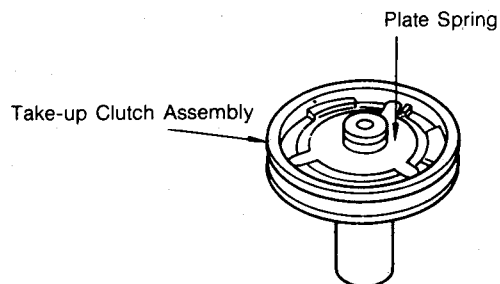

FIG. 14
- c) Change take-up clutch tension by turning the friction spring under reel table, as shown in Fig. 14 and/or